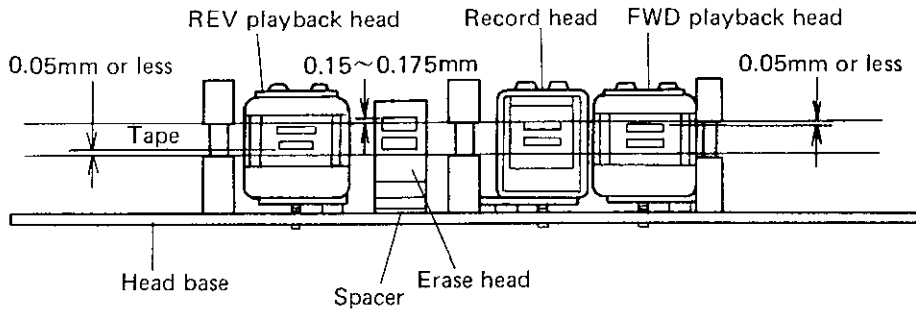
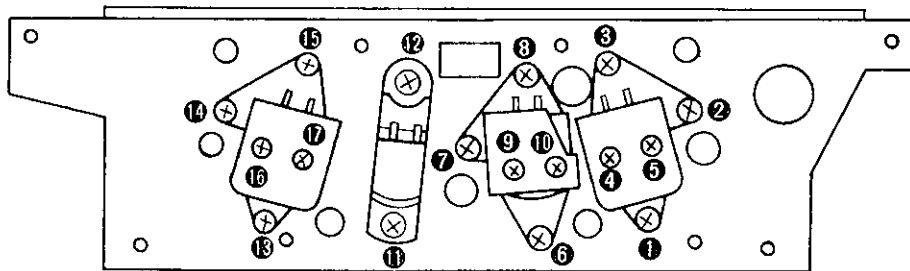

Fig. 30
Fig. 31
Adjust the screws of Fig. 31 so that the heads and tape become the dimensions shown in Fig. 30 when the tape has been run.
*When the height of the erase head is not the dimension given in Fig. 30, loosen screws 11, 12 and adjust the height by inserting an adjustment spacer under the head.
Adjust the screws of Fig. 31 so that the top and bottom of the front of the head contact the tape uniformly when the tape is running.
Adjust the screws of Fig. 31 so that the head gaps are at right angles to the tape.